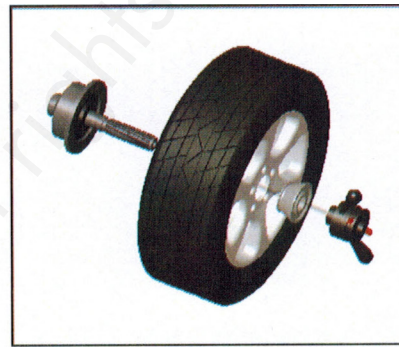

Fig. 6-2
- B.** Negative positioning (see figure 6-2)